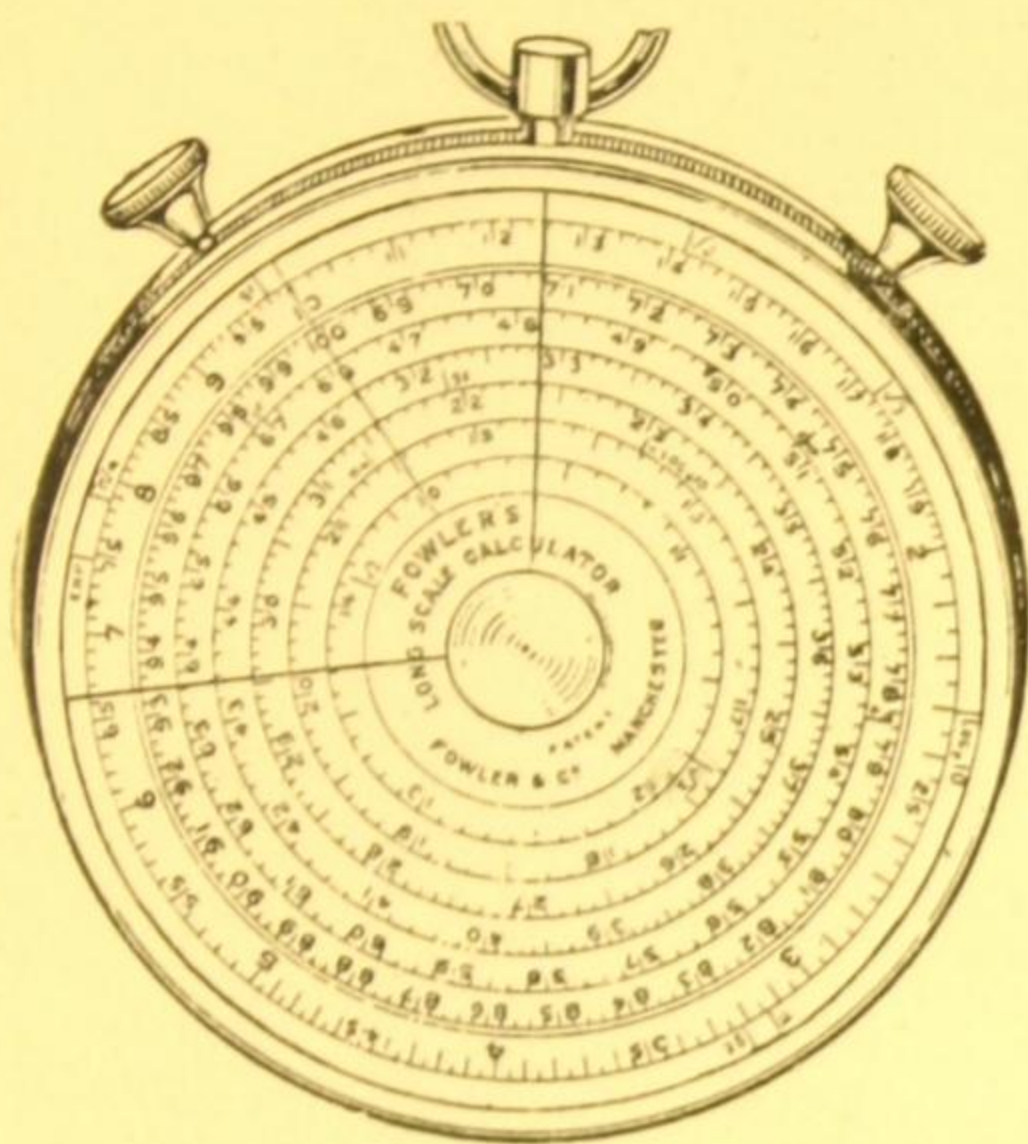

Fig 162.
**The Fowler Watch-form Calculators** have two rotating dials,  $2\frac{1}{2}$  inches diameter, fitted back to back, on which logarithmic and special scales are marked. On each glass is a fixed index line and the front dial is provided with a rotating cursor line. The two types H and RX are described below—Fig. 162 represents the Front Dial of Type H and also the Back Dial of Type RX.